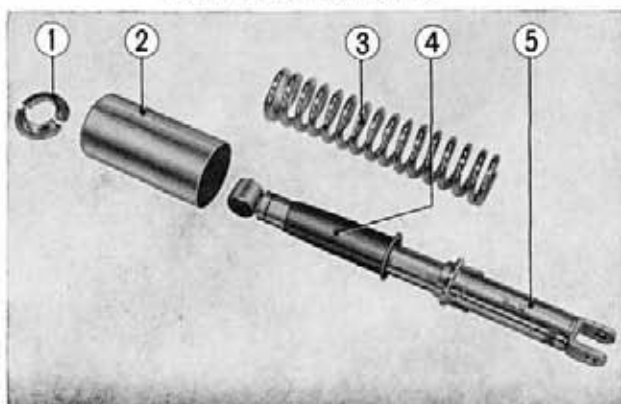

Fig. 12-5 ① Spring seat stopper
1. Assemble the under seat, spring and upper case to the damper. Compress the assembly using a rear cushion assembly tool (Tool No. 07959-3290000) and lock the assembly with spring seat stopper. (Fig. 12-5)